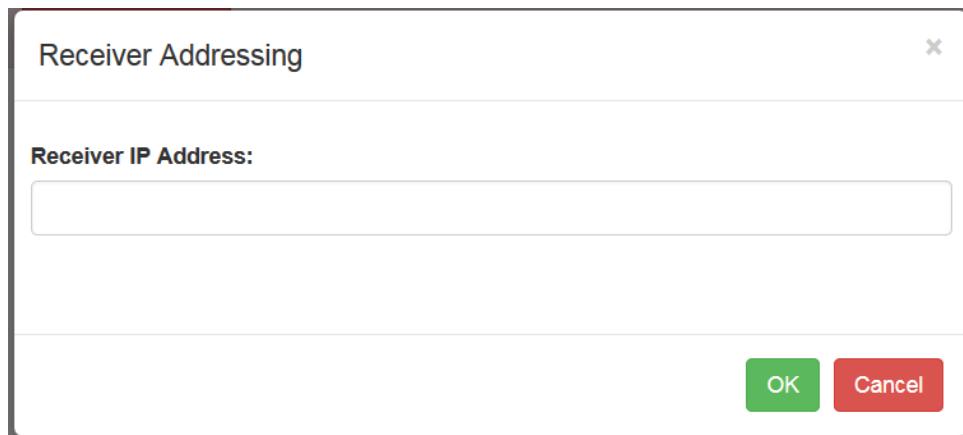

Figure 316: Receiver Addressing Window
3. When the Receiver Addressing window displays (Figure 316), type the correct IP address in the Receiver IP Address field, then click on the OK button. The IP address requested is located on the front panel Main Menu > System Settings screen.